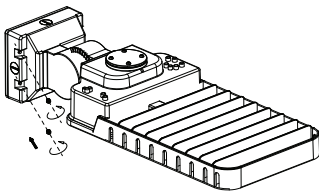

FIG. 19
5. Connect the power leads to the driver compartment. Take off the metal cord from the bottom bracket and fixture. Tighten the fixture to the wall by the 4 M5*12 Screws. (see **FIG. 19**).